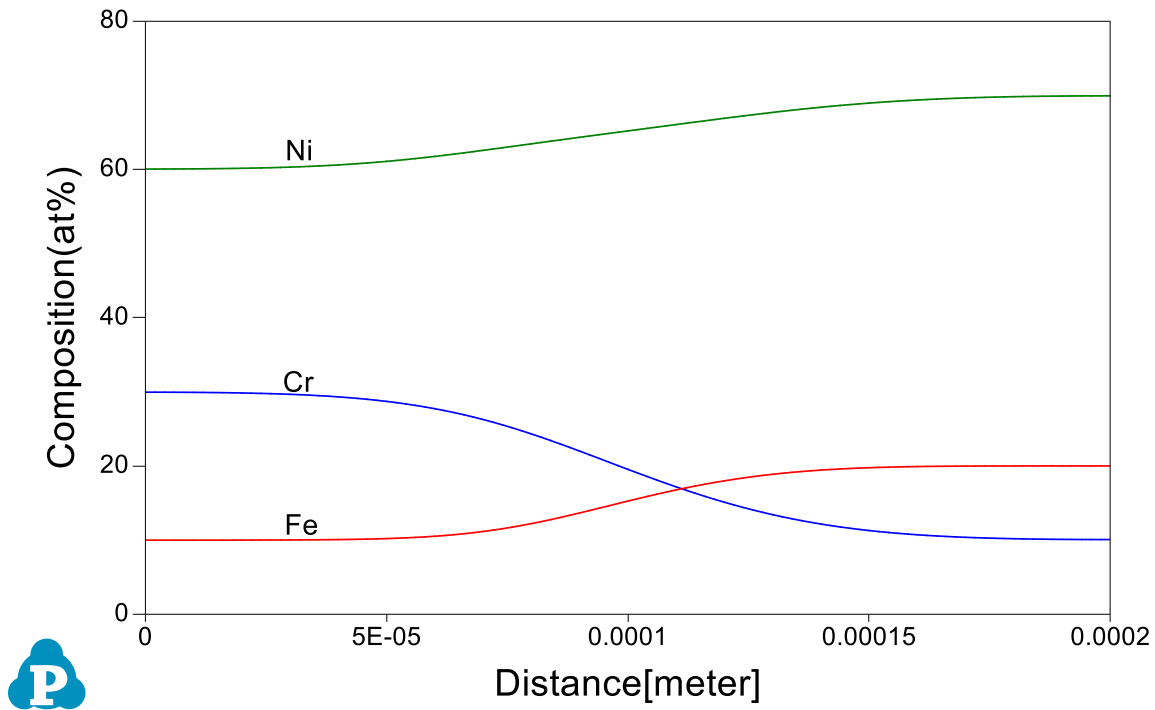

Figure 4.1.3: Calculated composition profiles after diffusion for 200 hours
- In addition to Default table, composition profiles at selected times are given in separated tables under Table, which can be plotted separately as shown in Figure 4.1.3.